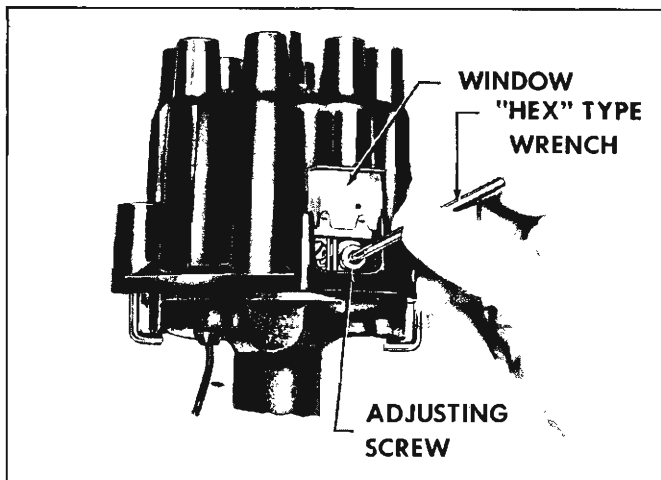

Fig. 18—Setting V-8 Dwell
- With engine running at idle, raise the adjustment screw window and insert an Allen wrench in the socket of the adjusting screw (fig. 18).